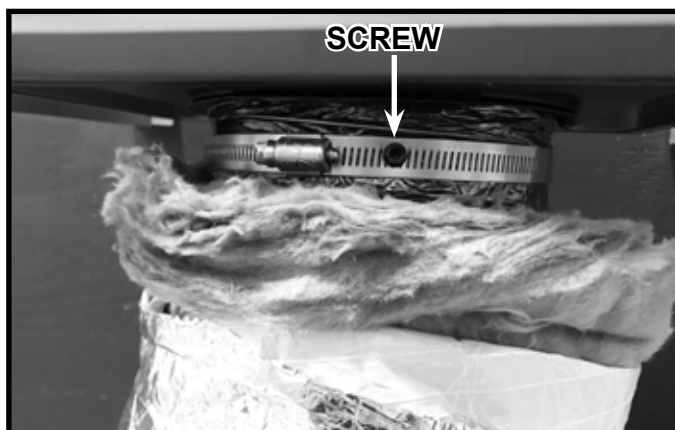

Figure 5.15 Install Screw into Collar
6. Install self-tapping screw through gear clamp into collar. Repeat for all collars. See Figure 5.15.